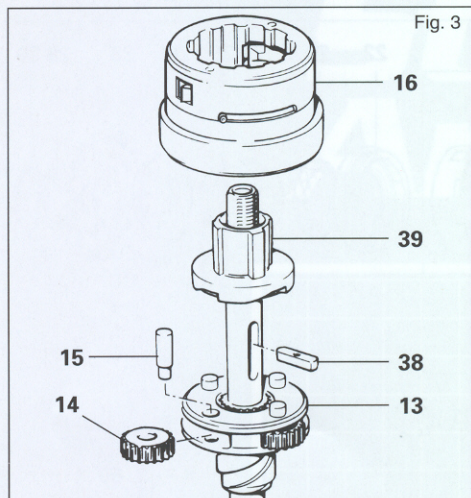

Fig. 3
6. (See Fig. 3). Lift off gear ring assembly,
- (See Fig. 3). Clamp left hand end of axle in vice and fit the planet pinions and pins with the small diameter downwards. Fit the axle key (ensuring threaded hole is